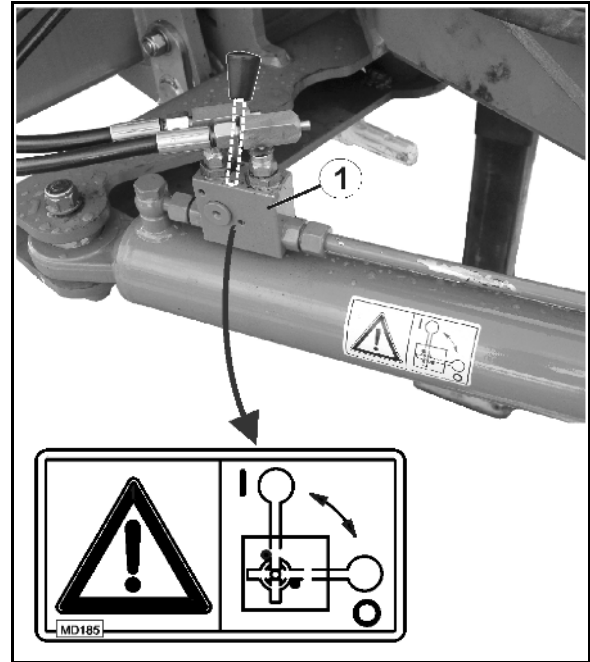

Fig. 63
4. Secure the steering draw bar into position 0 by closing the stop tap. (Fig. 63/1).